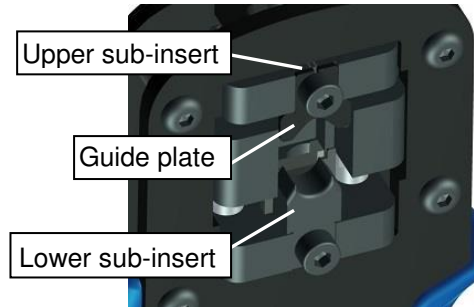

Fig.1.
- ❑ Fig.1. clarifies terms "upper sub-insert", "lower sub-insert" and "cable size stripes" necessary for correct tool preparation. Using the inappropriate combination of sub-inserts and cable size (O.D.) may result with false crimp, and tool damaging for which the manufacturer cannot be held responsible.